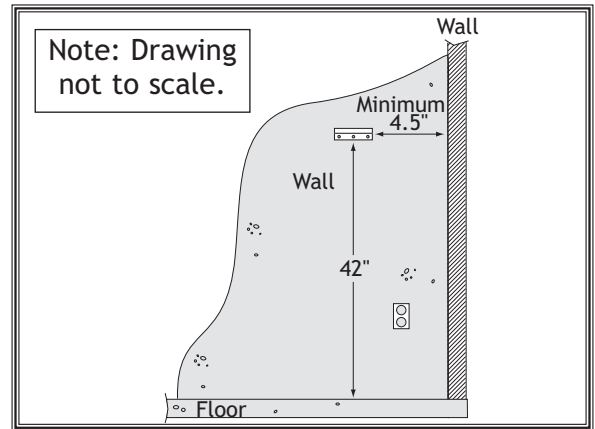

Figure 9. Dust collector mounting.
2. Using the wall mounting bracket as a template, mark the mounting hole location so the bottom of the mounting bracket is a minimum of 42" from the floor and at least 4 1/2" away from any wall, as shown in **Figure 9**.